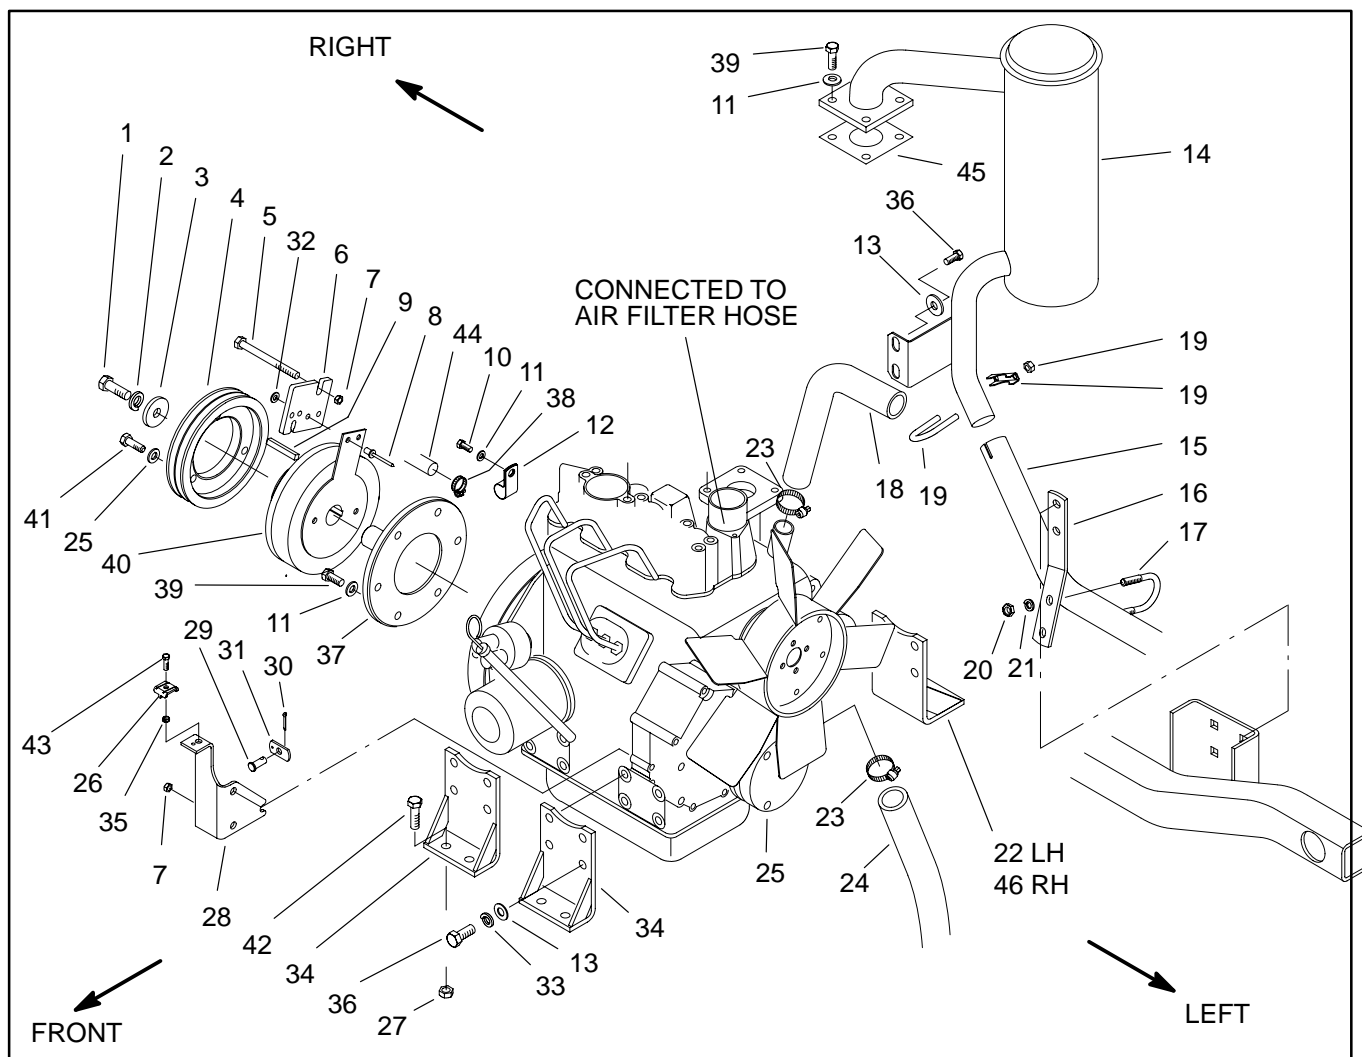

Figure 19
10. Disconnect hoses from engine (Fig. 19).
B. Loosen hose clamps (23). Disconnect upper radiator hose (18) and lower radiator hose (24) from the engine.
C. Loosen hose clamp (38) and disconnect fuel hose (44) from the lift pump. Plug hose to prevent leakage.
12. Remove exhaust system (Fig. 19).
A. Remove muffler clamp (19) from the muffler (14) and muffler tube (15).
B. Loosen nut (20) and U-clamp (17). Separate muffler tube from muffler and slide muffler tube through U-clamp.
C. Remove cap screws (36) and washers (13) from the muffler and right rear mount bracket (46).
D. Remove cap screws (39) and flat washers (11) from the muffler and exhaust manifold. Remove muffler and muffler gasket (53) from the engine.
13. Disconnect throttle cable (Fig. 19).
A. Loosen cap screw (43) enough to separate the throttle cable from the throttle cable clamp (30).
B. Remove cotter pin (30) from clevis pin (29). Remove clevis pin, throttle tab (31), and throttle cable from the engine governor lever.
14. Disconnect electrical connections (Fig. 19).
17. Remove engine (Fig. 19)
3. If mount brackets (22, 34, and 46) were removed re-install them as follows (Fig. 19):
A. For front mount brackets (34), secure brackets to the engine (25) with cap screws (36), lock washers (33) and washers (13). Torque cap screws from 34 to 42 ft-lb (4.7 to 5.8 kg-m).
B. For left rear mount bracket (22), secure bracket to the engine (25) with two cap screws (36), lock washers (33) and washers (13) through the left holes. Leave the right holes open for the muffler. Torque cap screws from 34 to 42 ft-lb (4.7 to 5.8 kg-m).
C. For right rear mount bracket (46), secure brackets to the engine (25) with cap screws (36), lock washers (33) and washers (13). **Leave cap screws loose enough so that the position of the bracket can be adjusted after the engine is installed.**